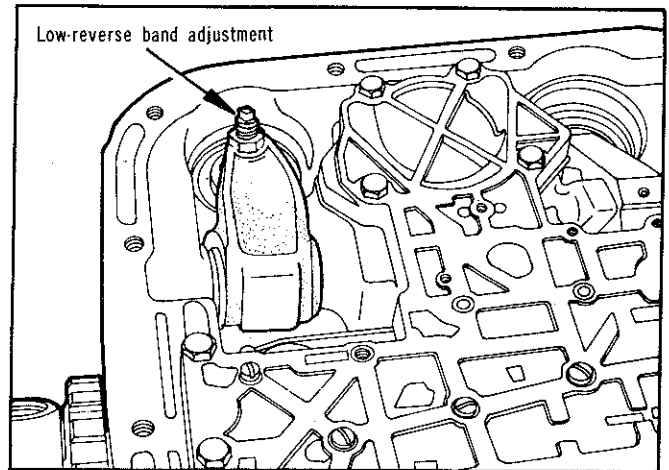

Fig. 12—Low-Reverse band adjustment
(2) Loosen adjusting screw lock nut and back off nut approximately five turns (Fig. 12). Test adjusting screw for free turning in the lever.
(3) Using Nm (lbs. in.) torque wrench tighten band adjusting screw to specifications.
(4) Back off adjusting screw as listed in specifications. Hold adjusting screw in this position and tighten lock nut to specification.